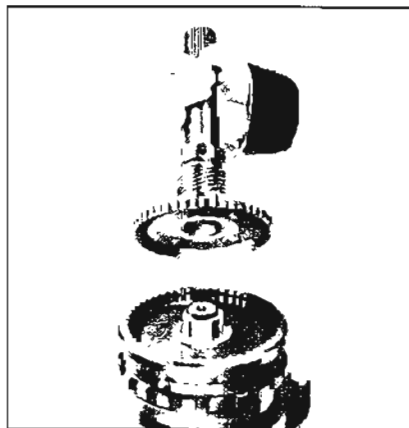

Figure 5-675
7. Install the output shaft into the output carrier assembly. See Figure 5-675.